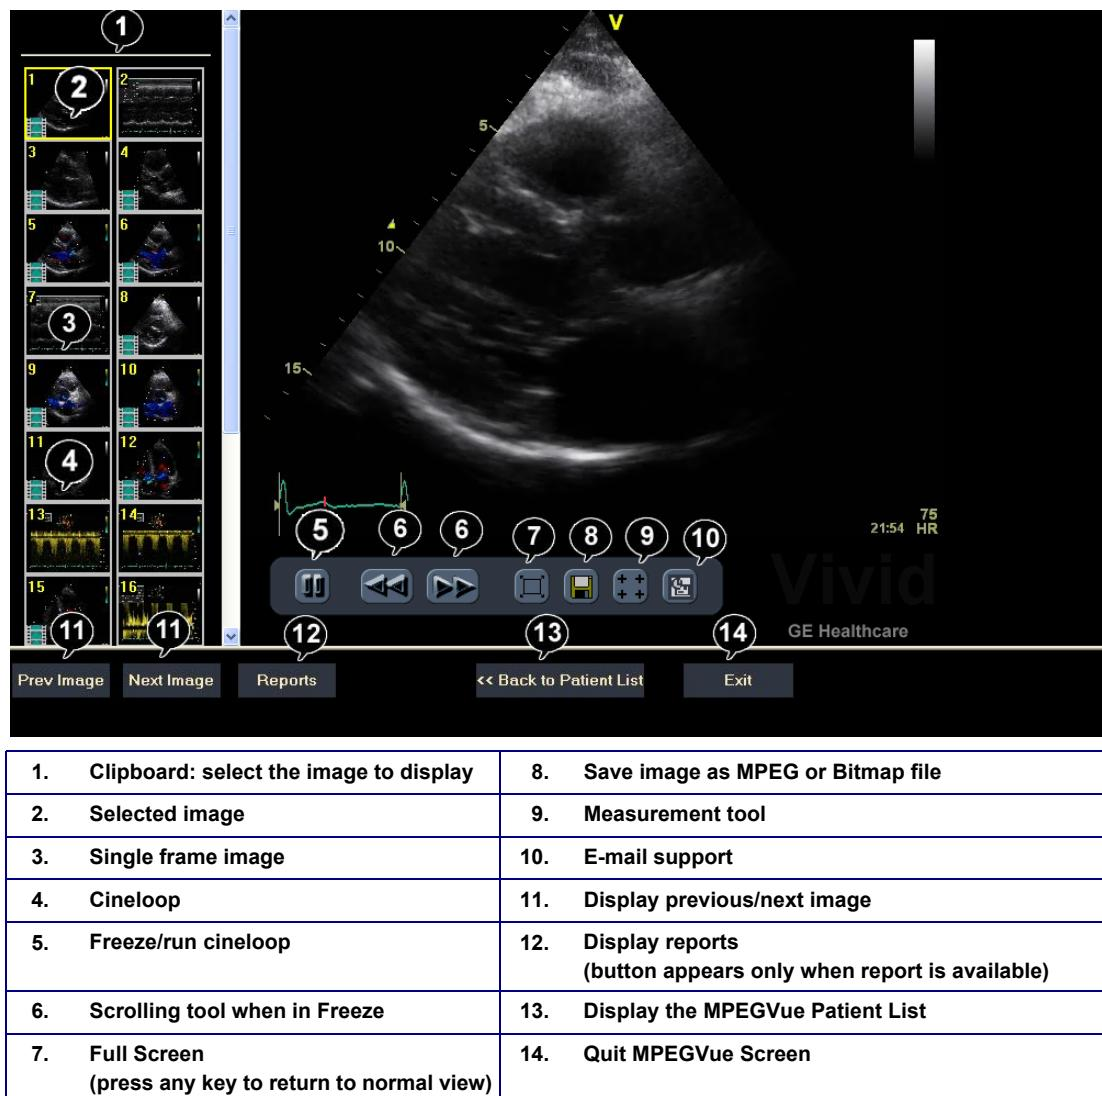

Figure 3-117 *MPEGVue Screen*
The *MPEGVue screen* is displayed as shown in the example in Figure 3-117 below.
- Click on the **Next Image** or **Previous Image** buttons (#11 in Figure 3-117), as required.
- Clicking on the **Freeze/Run** icon (#5 in Figure 3-117) will *freeze* the loop. Clicking on same icon once again will run the loop again.
- Clicking on the **scrolling** icons (#6 in Figure 3-117) will *stop* the loop, allowing the user to advance *forwards* or *backwards* to the required frame.
Click on the **Back to Patient List** button (#13 in Figure 3-117). On the Patient List, click on the **Exam Date** of the required patient.
To save an image, click on the diskette icon (#8 in Figure 3-117). A *Save As...* dialog-box will appear, allowing you to select the desired file format in which to save the image.
- 1) Select the **Measurement** tool (#9 in Figure 3-117).
- 1) From the MPEGVue Screen, open the examination to be sent and click the **E-mail** button (#10 in Figure 3-117 on page 3-127).
- 1) From the clipboard, select the image to be sent and click the **E-mail** button (#10 in Figure 3-117 on page 3-127).